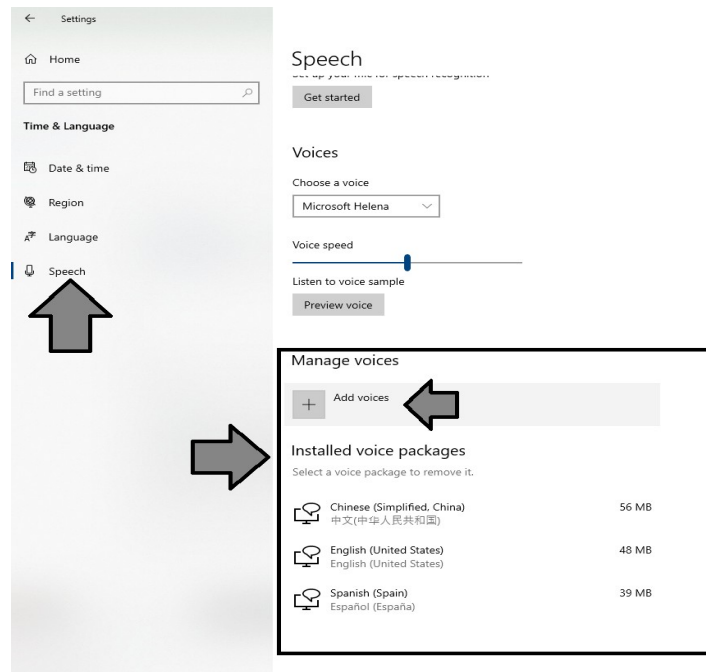

Figure 146: Manage Voices
7. Install new voices (Alternative): It is possible to install voices directly from the speech menu. Once here in the “Manage Voices” menu check if all the desired voices are installed. If it is not the case, click on “Add voices” and proceed as indicated at step 5 (Figure 146).